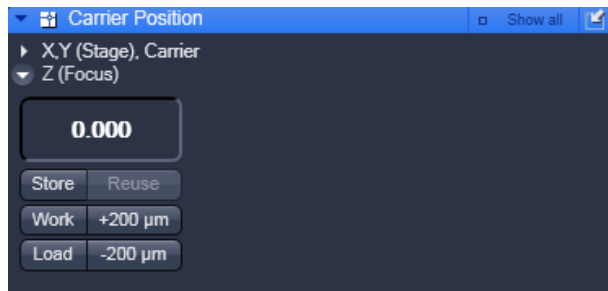

Fig. 13 Z (Focus) panel
- Press the **Z (Focus)** tool tab to open the **Z (Focus)** tool box (Fig. 13). Press anywhere outside the window to close the tool box.